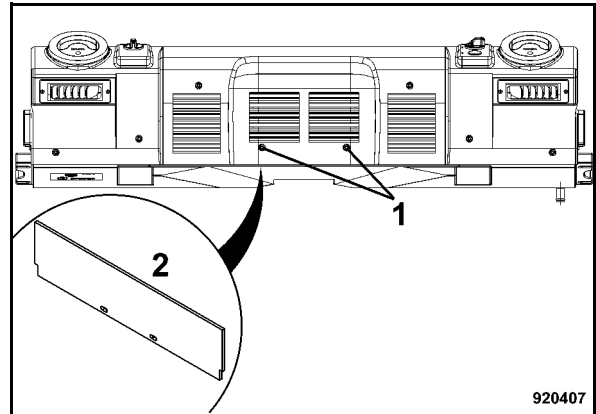

Fig. 152
- Unscrew screws (1) (Fig. 152).
- Pull the filter (2) downwards out.